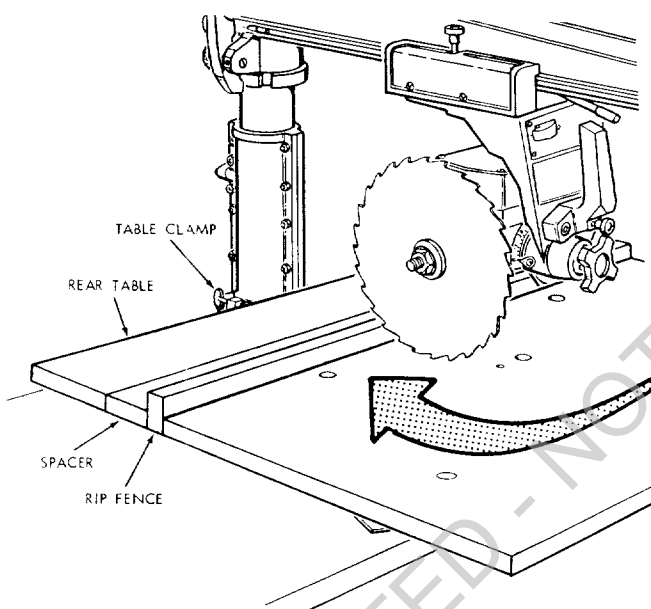

Figure 27
- a. Place the rip fence against rear edge of front table, place the spacer against the rip fence, then place rear table against the spacer. (See figure 27.) Slide all three items into position so that ends are even with front table.
- b. Engage a table clamp in the exposed "keyhole" in each table support and tighten the two clamps to secure all rear table components. (See figure 27.)